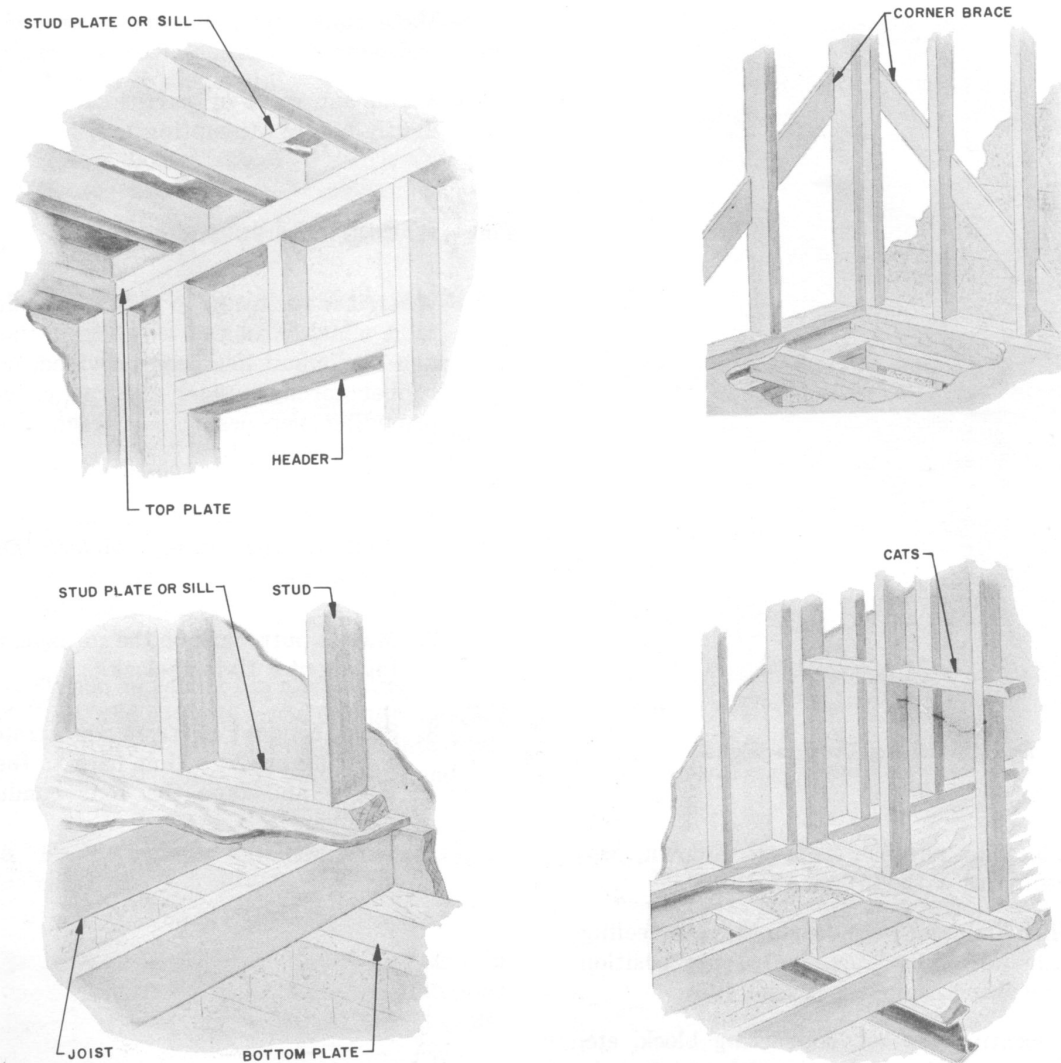

Fig. 5 — Wall Obstructions
- Some of the obstructions which may be encountered are shown in Fig. 5.